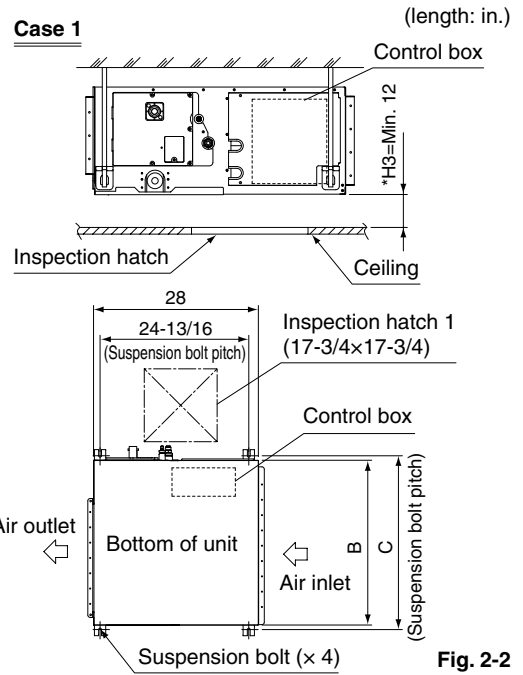

Fig. 2-2
1. Inspection hatch 1 (17-3/4 × 17-3/4) for the control box and a minimum space of 12 in. for the lower part of the product. **(Refer to Fig. 2-2)**